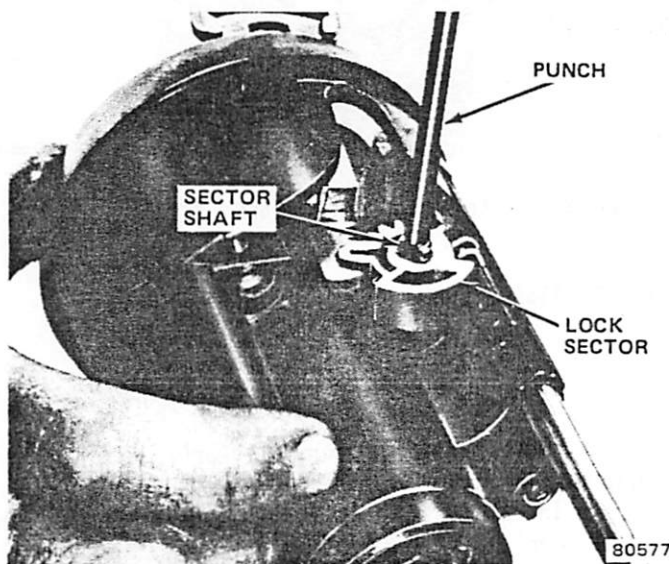

Fig. 2J-56 Lock Sector and Sector Shaft Removal
(36) Remove lock shoe pin from housing using tool J-22635 or pin punch (fig. 2J-38) and remove lock shoes, springs, and wedge.
(37) Remove housing upper and lower bearings and races only if damaged or worn. If bearings and races must be replaced, remove bearings and races using hammer and punch.